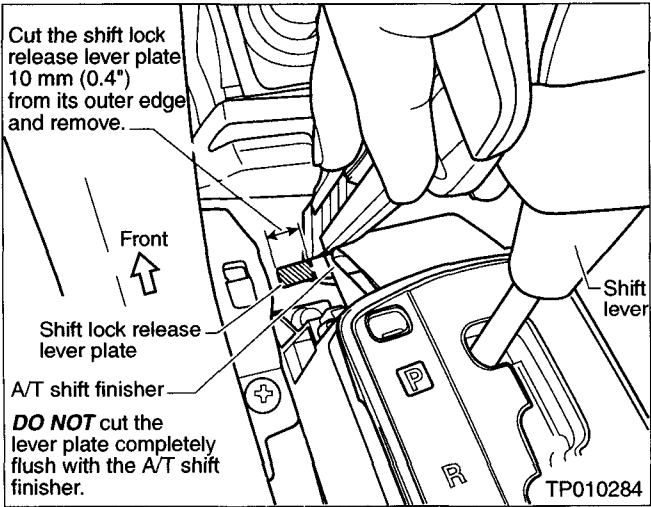

Figure 2
3. Locate the shift lock release lever plate (white plastic piece). See Figure 2.
**CAUTION:** DO NOT cut the lever plate completely flush with the A/T shift finisher (see Figure 2).